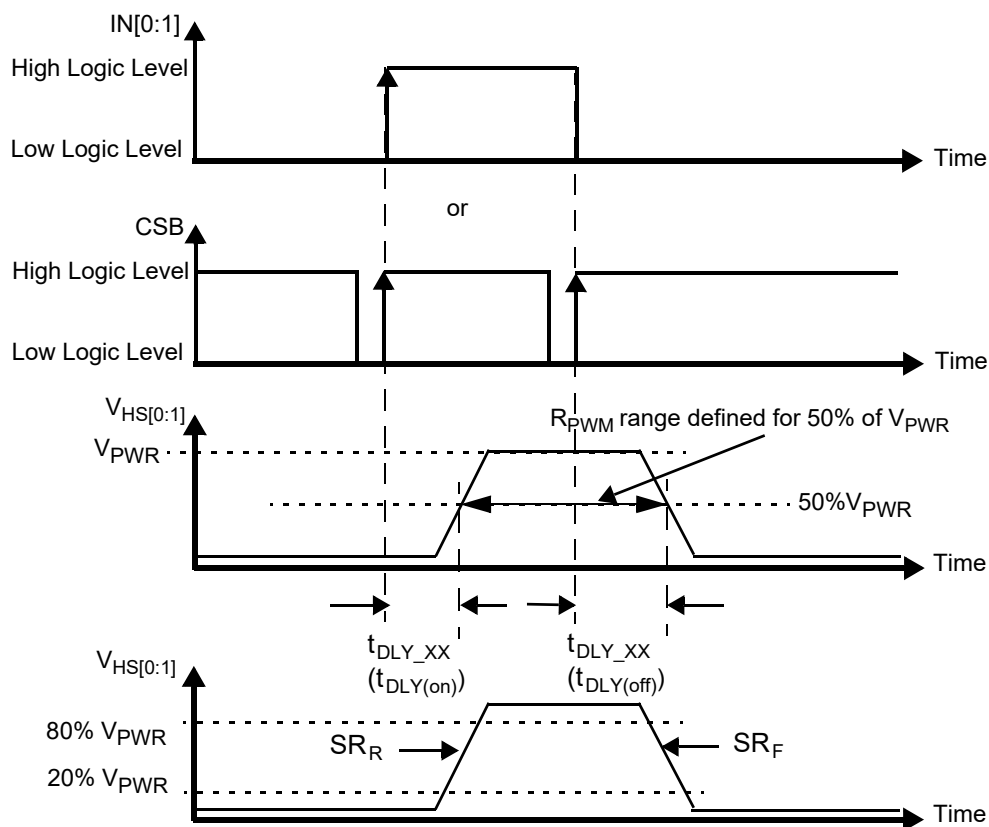
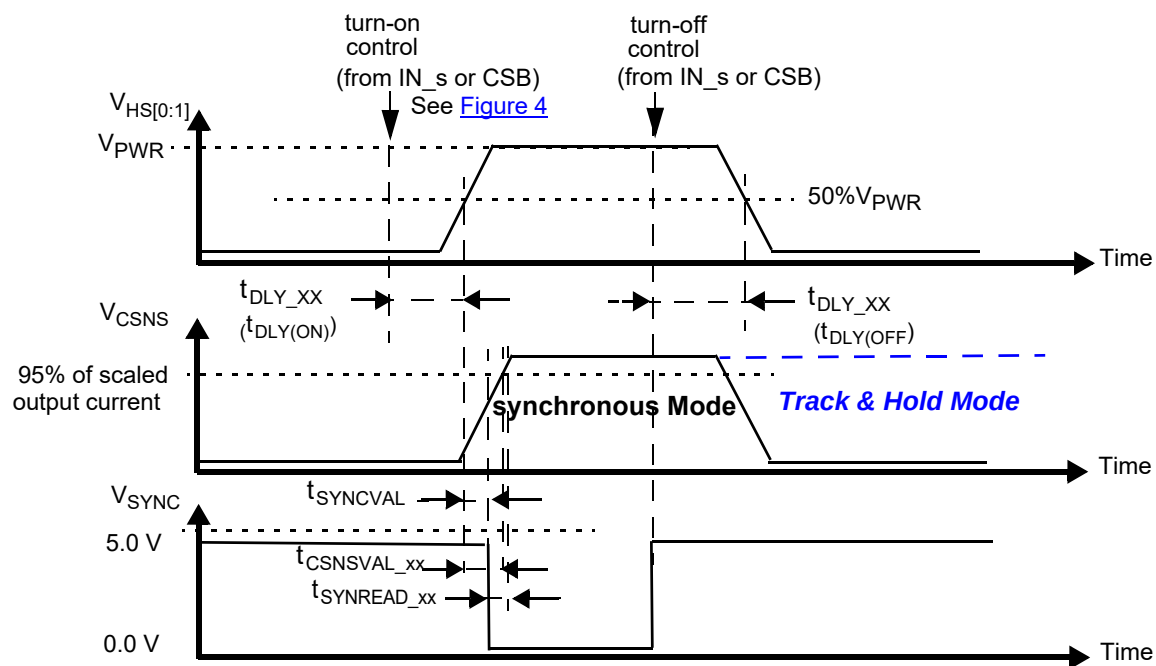

Figure 4. Output voltage slew rate and delay
Figure 9. Synchronous and Track & Hold current sensing modes: associated delay and settling times
27. Rising and Falling edge slew rates specified for a 20 % to 80 % voltage variation on a $10.0\text{ }\Omega$ resistive load (see Figure 4).
29. Time required to switch off the channel after detection of overtemperature (OT), overcurrent (OC), SC or UV error (time measured between start of the negative edge on the FSB pin and the falling edge on the output voltage until $V(\text{HS}[0:1]) = 50\%$ of V_{PWR}).
30. Settling time ($= t_{CSNSVAL_XX}$), SYNC output signal delay ($= t_{SYNVAL_XX}$) and Read-out delay ($= t_{SYNREAD_XX}$) are defined for a stepped load current ($100\text{ mA} < I(\text{LOAD}) < I_{OCLX_A}$ FOR $\text{CSNS_RATIO_S} = 1$, AND $300\text{ mA} < I(\text{LOAD}) < I_{OCLX_A_0}$ FOR $\text{CSNS_RATIO_S} = 0$). (see Figure 9 and Output current monitoring \(CSNS\)).
To synchronize current sensing with an external process, the SYNC signal can be connected to a digital input of an external MCU. SYNC is asserted logic low when the current sense signal is accurate and ready to be read. The current sense signal on the CSNS pin has the specified accuracy $t_{SYNCREAD_XX}$ seconds after the falling edge on the SYNC pin (Figure 9) and remains valid until a rising edge is generated. The rising edge that is generated by the SYNC pin at the turn-OFF instant (internal or external) may also be used to implement synchronization with the external MCU. Parameter $t_{SYNCVAL_XX}$ is defined as the time between the instant at the middle of the output-voltage rising edge ($HS[0:1] = 50\%$ of V_{PWR}), and the instant at which the voltage on the SYNC-pin drops below 0.4 V (V_{SOL}). The SYNC pins of different devices can be connected together to save micro-controller input channels. However, in this configuration, the CSNS function of only one device should be active at a time. Otherwise, the MCU does not determine the origin of the SYNC signal. The SYNC pin is open drain and requires an external pull-up resistor to V_{DD} .